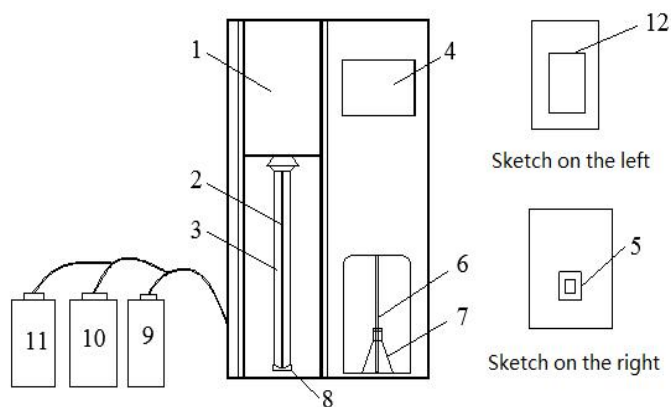
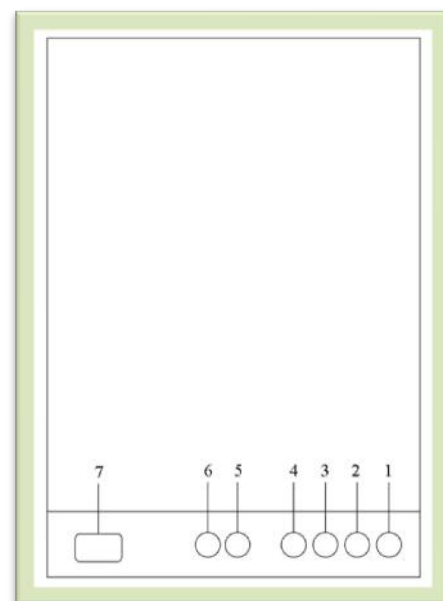

Figure 4-1
Figure 4-2
Front-side Structural Figure of the Apparatus (see Figure 4-1)
Back-side Structural Figure of the Apparatus (see Figure 4-2)
5.3 Installation Steps (refer to Figure 4-1 and Figure 4-2)